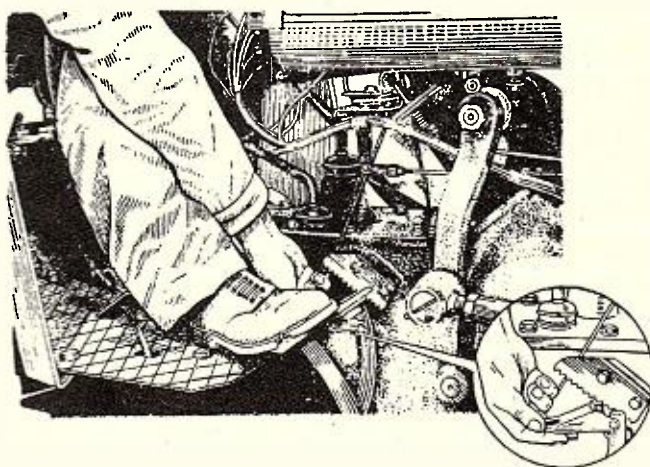

Fig. 22 - 4 Locking brake with the parking latch
2) When the tractor is to be parked on the slope, lock the parking latch (see Fig. 22 - 4) of the brake pedal after the engine stops, meanwhile shift the tractor into gears: on the upward slope, in forward gears and on the downward slope, in reverse gears.
4) When the tractor is to be parked for a long time below 5°C, drain off the cooling water in the cylinder and the radiator to prevent them from getting frozen. Note: open the cocks of the cylinder block and the radiator, at the same time, screw the radiator cover open to facilitate the drain. In cold seasons, for the purpose of completely draining off cooling water in the engine block, before the engine stops, open its cock, make it idle at the low speed for a while, and after having drained off the cooling water, stop the engine, as shown in Fig. 22 - 5.